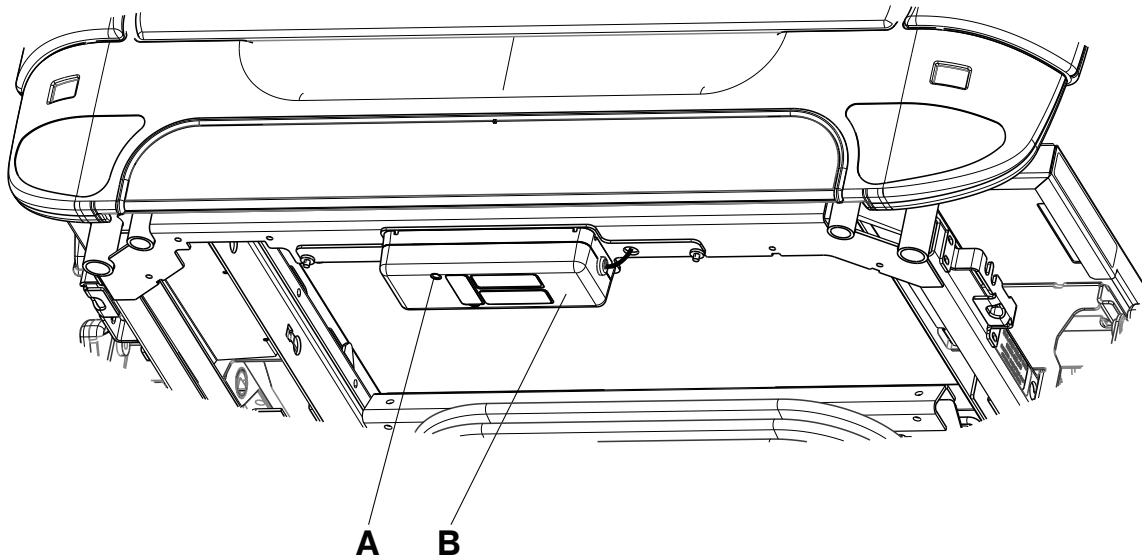

Figure 60 – Wireless module
2. Insert the large paperclip into the reset hole (A) on the bottom side of the wireless module (B) (Figure 60).